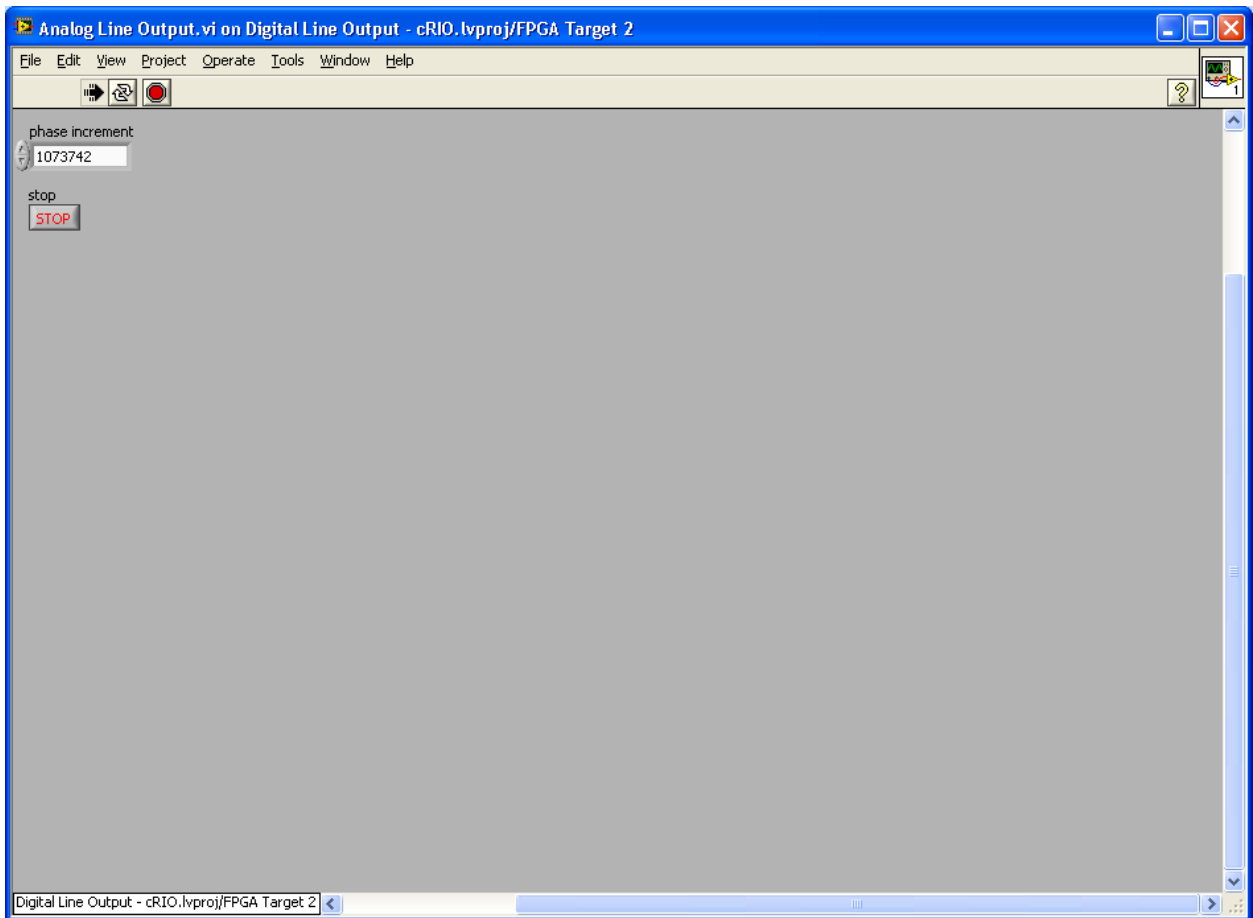

Figure 10 - Analog Line Output.vi – Running
6. Under phase increment (Figure 10), enter 1073743 corresponding to 10 kHz. This is what should be displayed on the multimeter.